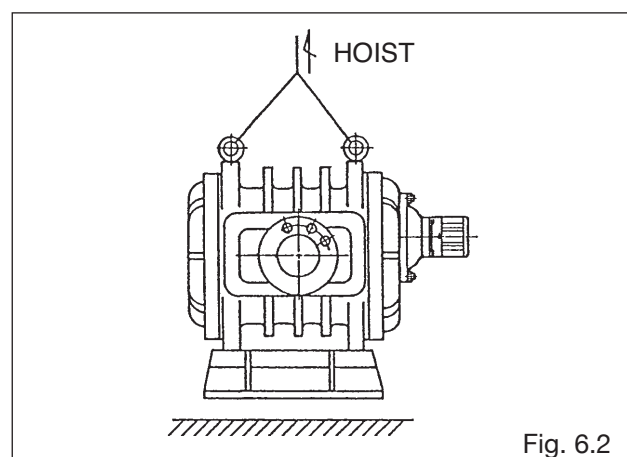

Fig. 6.2
- (2) Transport the meter to the installation location, exercising care not to give impact shocks, by hoisting with a wheel crane, or similar device (capacity 2.5 tons min.). See Fig. 6.2.